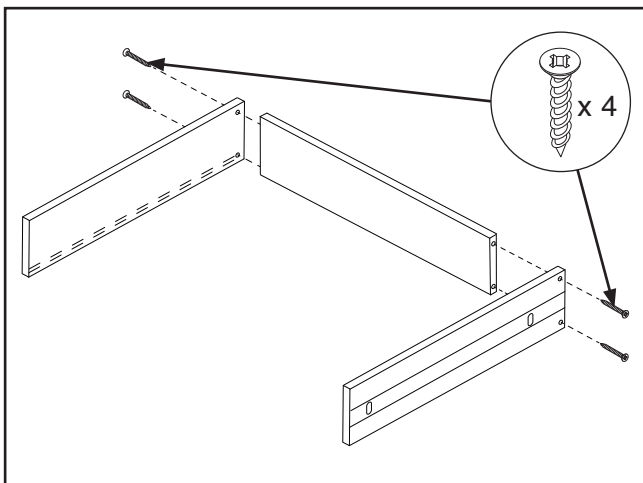

Figure 4. Attaching drawer side panels to back panel.
1. Fit (1) drawer back panel to (2) drawer side panels and secure with (4) M4 x 30 tap screws, as shown in **Figure 4**.